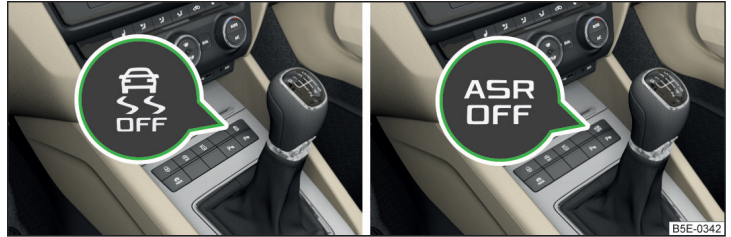

Fig. 146 System button: Vehicle with ESC / vehicle without ESC
- By pressing the Symbol key  for the activation and briefly pressing the button for the deactivation » Fig. 146 on page 134.
- By briefly pressing the symbol key  » Fig. 146.